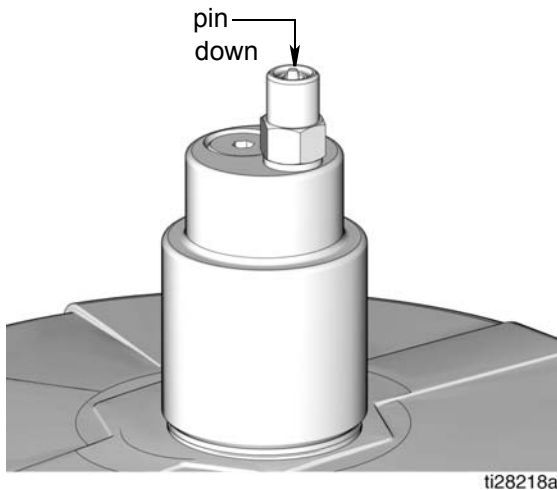

FIG. 11
1. Pull out and hold the Pressure Relief Knob (T) long enough to relieve line pressure between Fill Manifold (N) and Auto-Fill Shut Off Valve (B).
2. Verify the Auto-Fill Shut Off (B) pin is down, indicating it is reset (FIG. 11).